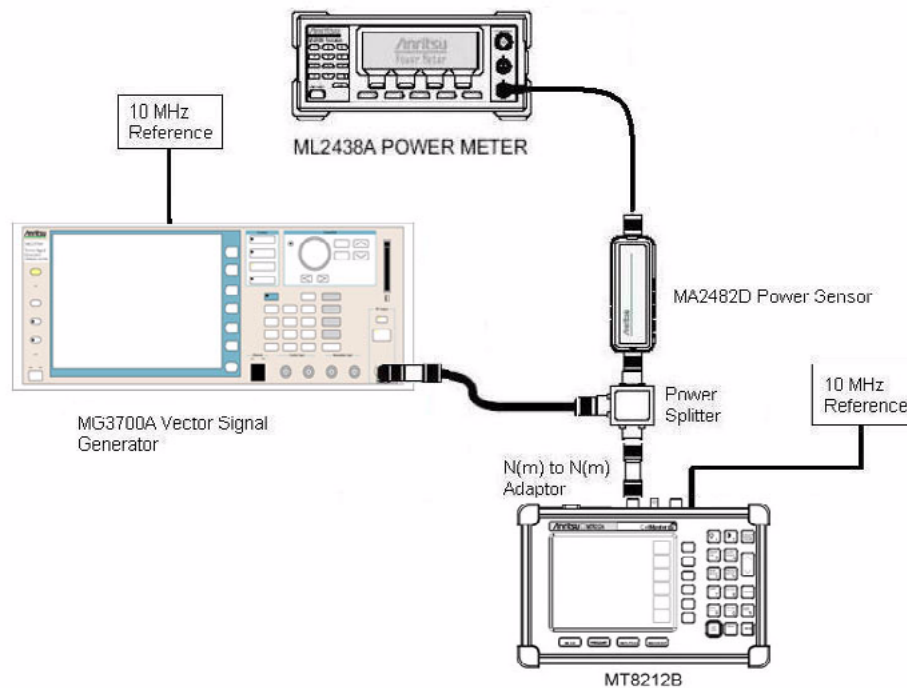

Figure 3-8. GSM RF Measurement Test Setup
1. Connect the equipment as shown in Figure 3-8. Confirm that the external 10 MHz reference is connected to both the 10 MHz Ref input of the MG3700A and the Ext Freq Ref input of the MT8212B.